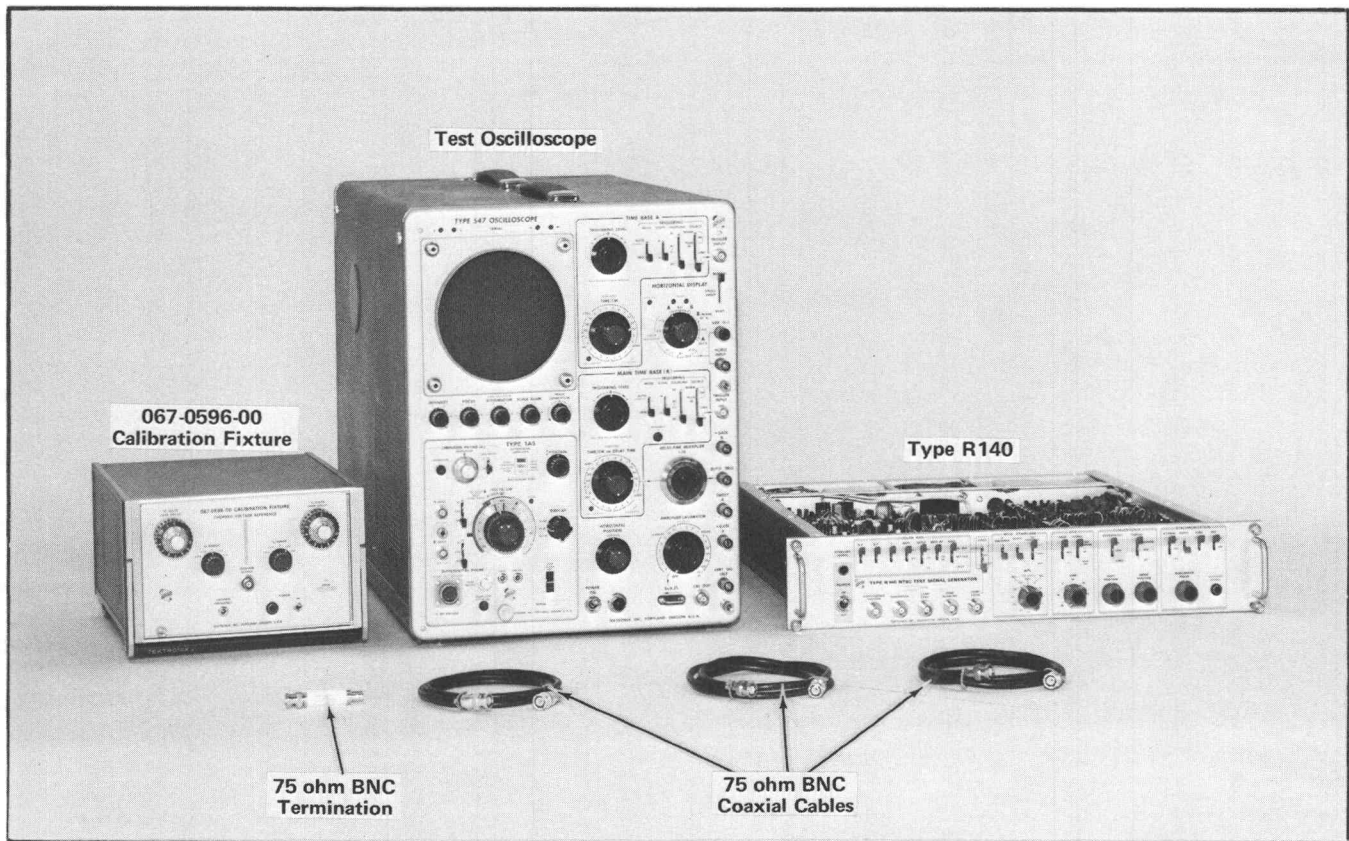

Fig. 5-6. Test equipment required for steps 7 through 11.
- a. Test equipment is shown in Fig. 5-6.